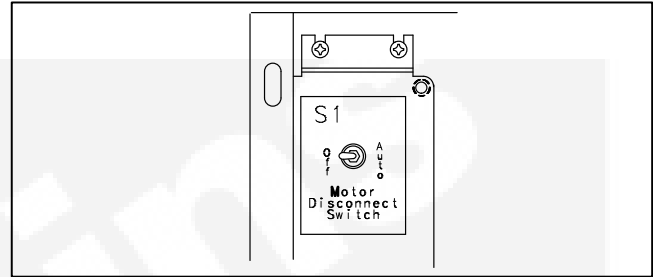

FIGURE 4-4. MOTOR DISCONNECT SWITCH
3. Move the Motor Disconnect toggle switch (Figure 4-4) to the Off position to disable the linear actuator.